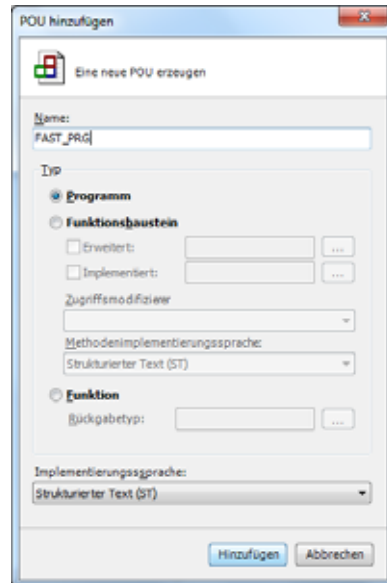

Figure 70: PLC and Task configuration
- ▶ Create the POUs „FAST\_PRG“ as shown in Figure 70.